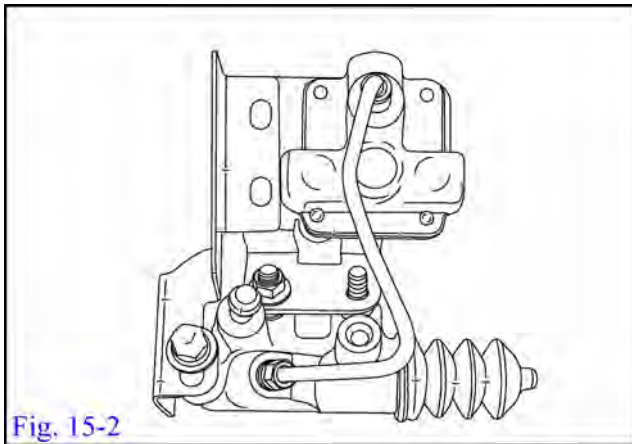

Fig. 15-2
- (b) Use one of the heat shield bolts, two M6 screws and the TRD accumulator heat shield to complete the installation of the accumulator bracket to the slave cylinder. (10mm & 12mm sockets) **Torque to 80 in-lbs** (10mm) & **16ft-lbs**. (12mm) (Fig. 15-2, shown out of vehicle for clarity only).
- (c) Install the new clutch hard line from the clutch accumulator to the clutch slave cylinder and tighten. (Fig. 15-2)